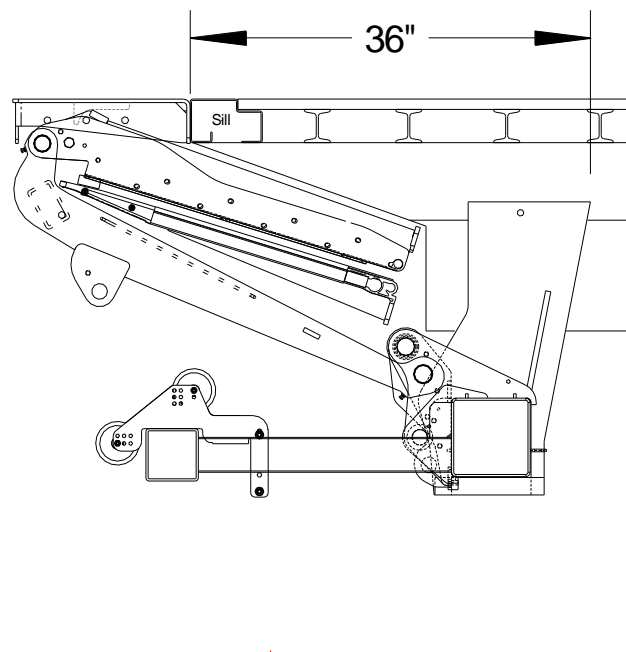

Fig.2
- Minimum clearance area required for an PTF 55 liftgate to install on a vehicle is 36". Clearance area should be free of any obstruction that will prevent the installation of the liftgate, **Fig.2**.